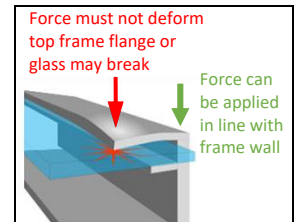

Figure 1a: Clamp Force Locations
- 2) Clamps:** Mount the module with the opposite clamps on the longer and/or shorter sides of the module. Installers should ensure the clamps are of sufficient strength to allow for the maximum design pressure of the module. Clamps are not provided by Maxeon. Clamps that secure to the top of the frame must not deform the top flange. Clamps must apply force collinear with the 'wall' of the module frame and not only to the top flange. Clamps or installation procedures that put excessive force on the top flange will deform the frame, void the module warranty and risk glass breakage. **Figure 1a** illustrates locations for top frame clamp force. When clamping to the module frame, torque should never exceed 132 in-lbs (15 Nm) to reduce chances of frame deformation and/or glass breakage. If the clamp manufacturer recommends a specific torque value which is lower than 132 in-lbs (15 Nm), the installer should use the clamp manufacturer's torque value. If the clamp manufacturer recommends a specific torque value which is higher than 132 in-lbs (15 Nm), the installer should contact the clamp manufacturer for acceptance of the 132 in-lbs (15 Nm) maximum torque value or to find alternative clamps. A calibrated torque wrench must be used. Mounting systems should be evaluated for compatibility before installing specially when the system is not using Clamps.